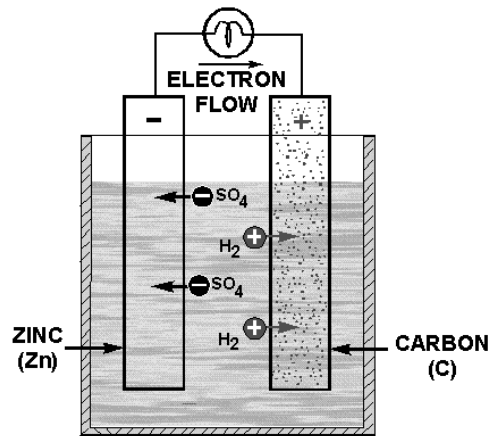

Figure 1.—Simple voltaic or galvanic cell.
A cell is a device that transforms chemical energy into electrical energy. The simplest cell, known as either a galvanic or voltaic cell is shown in figure 1. It consists of a piece of carbon (C) and a piece of zinc (Zn) suspended in a jar that contains a solution of water (H2O) and sulfuric acid (H2SO4) called the electrolyte.
The current flow through the load is the movement of electrons from the negative electrode of the cell (zinc) and to the positive electrode (carbon). This causes fewer electrons in the zinc and an excess of electrons in the carbon. Figure 1 shows the hydrogen ions ( $H_2$ ) from the sulfuric acid being attracted to the carbon electrode. Since the hydrogen ions are positively charged, they are attracted to the negative charge on the carbon electrode. This negative charge is caused by the excess of electrons. The zinc electrode has a positive charge because it has lost electrons to the carbon electrode. This positive charge attracts the negative ions ( $SO_4$ ) from the sulfuric acid. The negative ions combine with the zinc to form zinc sulfate. This action causes the zinc electrode to be eaten away. Zinc sulfate is a grayish-white substance that is sometimes seen on the battery post of an automobile battery.
In Figure 1 you will notice that the zinc electrode is labeled negative and the carbon electrode is labeled positive. This represents the current flow outside the cell from negative to positive.